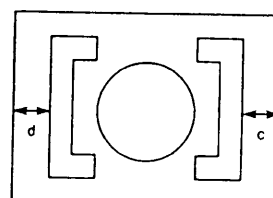

Fig 1.
- Adjust H. CENTRE SUB control (R451) so the pattern can be located for d-c to be +4.0 mm, as shown in Fig 1.